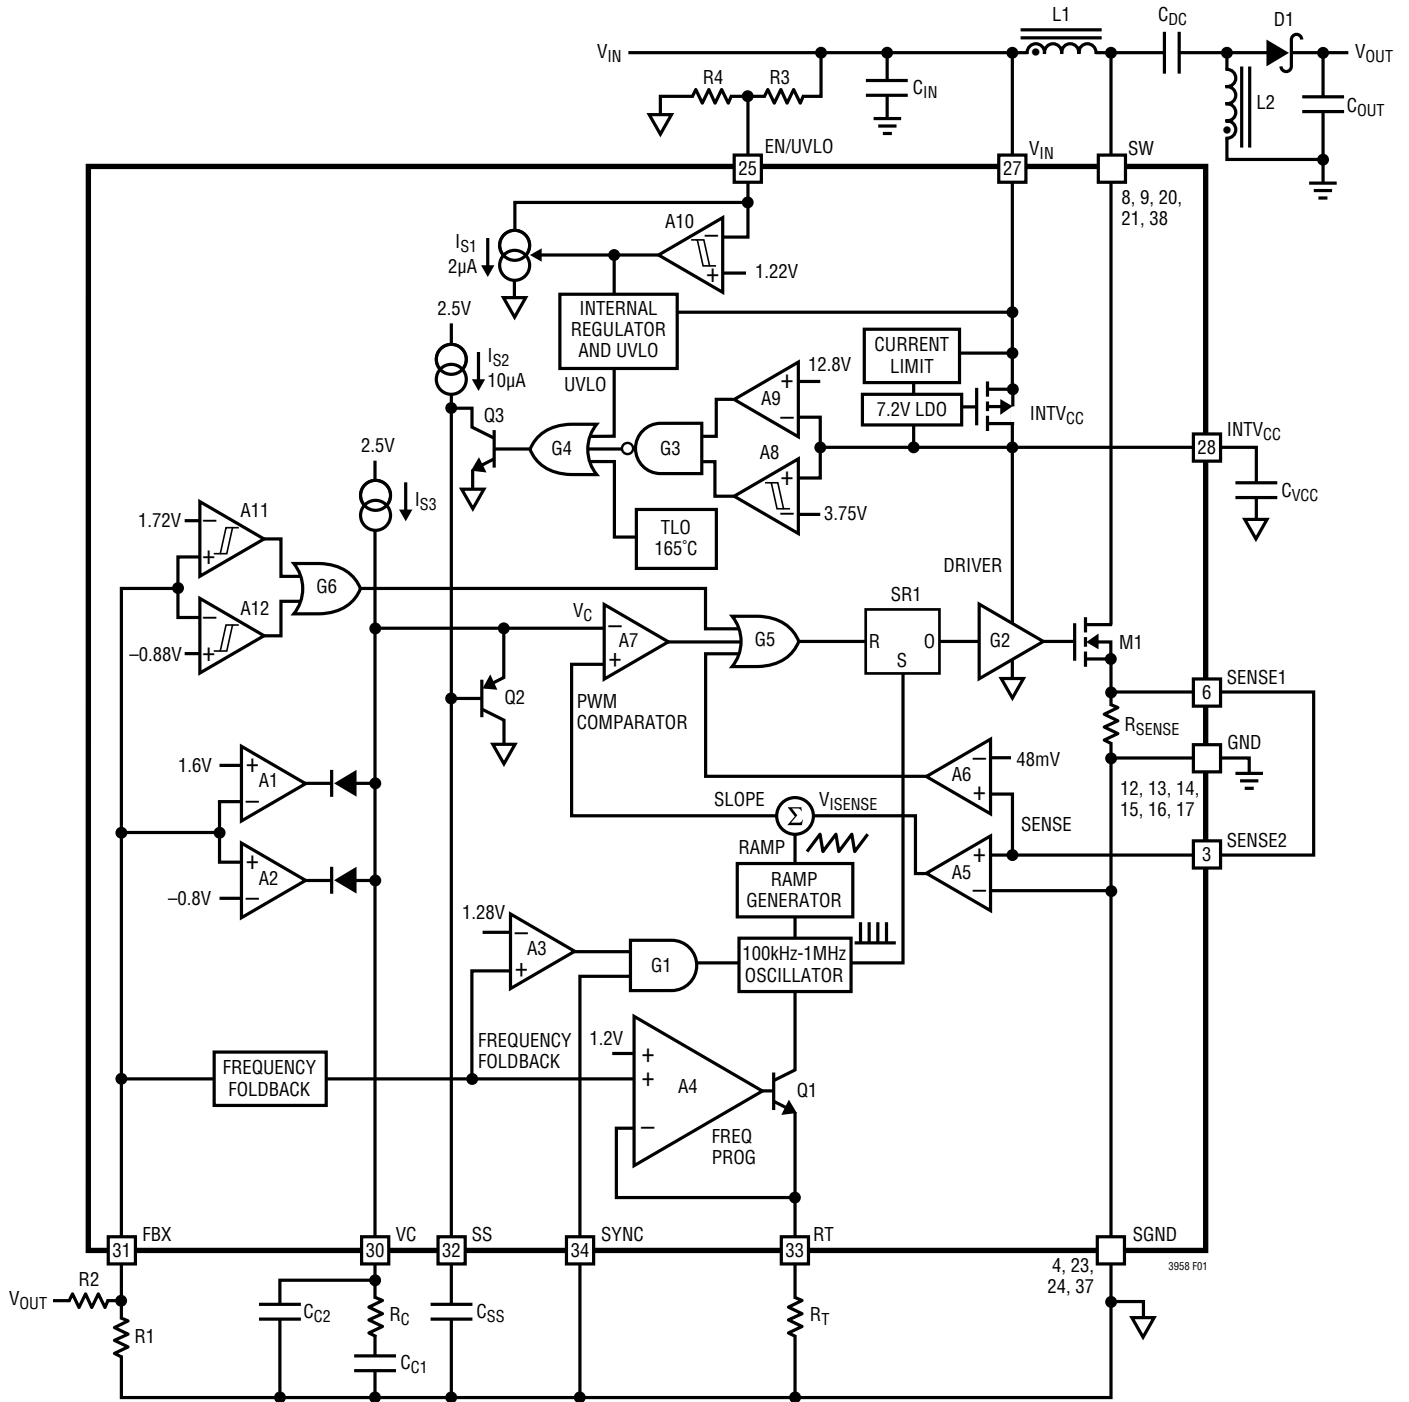

Figure 1. LT3958 Block Diagram Working as a SEPIC Converter
The LT3958 uses a fixed frequency, current mode control scheme to provide excellent line and load regulation. Operation can be best understood by referring to the Block Diagram in Figure 1.
The LT3958 is capable of generating either positive or negative output voltage with a single FBX pin. It can be configured as a boost, flyback or SEPIC converter to generate positive output voltage, or as an inverting converter to generate negative output voltage. When configured as a SEPIC converter, as shown in Figure 1, the FBX pin is pulled up to the internal bias voltage of 1.6V by a voltage divider (R1 and R2) connected from V_{OUT} to SGND. Comparator A2 becomes inactive and comparator A1 performs the inverting amplification from FBX to VC. When the LT3958 is in an inverting configuration, the FBX pin is pulled down to $-0.8V$ by a voltage divider connected from V_{OUT} to SGND. Comparator A1 becomes inactive and comparator A2 performs the noninverting amplification from FBX to VC.
The purpose of this current is to allow the user to program the rising hysteresis. The Block Diagram of the comparator and the external resistors is shown in Figure 1. The typical falling threshold voltage and rising threshold voltage can be calculated by the following equations:
An internal, low dropout (LDO) voltage regulator produces the 7.2V INTV_{CC} supply which powers the gate driver, as shown in Figure 1. The LT3958 contains an undervoltage lockout comparator A8 and an overvoltage lockout comparator A9 for the INTV_{CC} supply. The INTV_{CC} undervoltage (UV) threshold is 3.75V (typical), with 0.15V hysteresis, to ensure that the internal MOSFET has sufficient gate drive voltage before turning on. The logic circuitry within the LT3958 is also powered from the internal INTV_{CC} supply.
The choice of operating frequency may be determined by on-chip power dissipation (a low switching frequency may be required to ensure IC junction temperature does not exceed 125°C), otherwise it is a trade-off between efficiency and component size. Low frequency operation improves efficiency by reducing gate drive current and MOSFET and diode switching losses. However, lower frequency operation requires a physically larger inductor. Switching frequency also has implications for loop compensation. The LT3958 uses a constant-frequency architecture that can be programmed over a 100kHz to 1000kHz range with a single external resistor from the RT pin to ground, as shown in Figure 1. The RT pin must have an external resistor to SGND for proper operation of the LT3958. A table for selecting the value of R_T for a given operating frequency is shown in Table 1.
The output voltage V_{OUT} is set by a resistor divider, as shown in Figure 1. The positive and negative V_{OUT} are set by the following equations:
The LT3958 addresses this mechanism with the SS pin. As shown in Figure 1, the SS pin reduces the power MOSFET current by pulling down the VC pin through Q2. In this way the SS allows the output capacitor to charge gradually toward its final value while limiting the start-up peak currents. The typical start-up waveforms are shown in the Typical Performance Characteristics section. The inductor current I_L slewing rate is limited by the soft-start function.
Loop compensation determines the stability and transient performance. The LT3958 uses current mode control to regulate the output which simplifies loop compensation. The optimum values depend on the converter topology, the component values and the operating conditions (including the input voltage, load current, etc.). To compensate the feedback loop of the LT3958, a series resistor-capacitor network is usually connected from the VC pin to SGND. Figure 1 shows the typical VC compensation network. For most applications, the capacitor should be in the range of 470pF to 22nF, and the resistor should be in the range of 5k to 50k. A small capacitor is often connected in parallel with the RC compensation network to attenuate the VC voltage ripple induced from the output voltage ripple through the internal error amplifier. The parallel capacitor usually ranges in value from 10pF to 100pF. A practical approach to design the compensation network is to start with one of the circuits in this data sheet that is similar to your application, and tune the compensation network to optimize the performance. Stability should then be checked across all operating conditions, including load current, input voltage and temperature. Application Note 76 is a good reference.